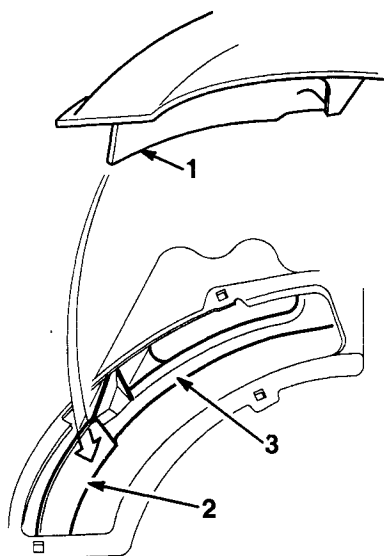

Figure 39
4. Place front corner of chute baffle into deck opening. Rotate chute counterclockwise and push down into deck opening (Fig. 39).